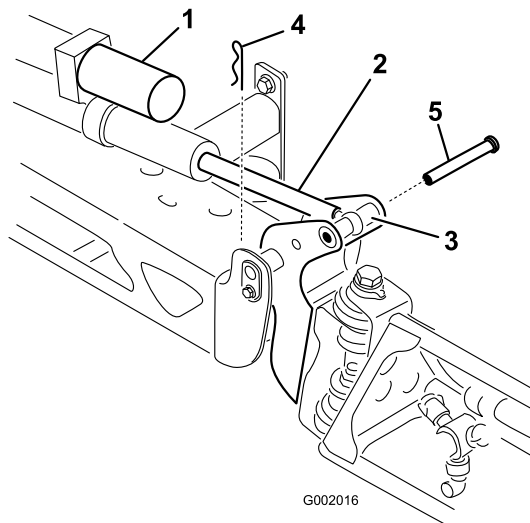

Figure 36
2. Remove the cotter pin from the pivot pin (Figure 36).
3. Lift up on the boom and remove the pin (Figure 36). Slowly lower the boom to the ground.
6. Raise the boom to align the pivot with the actuator rod. While holding the boom, insert the pin through both boom pivot and actuator rod (Figure 36).